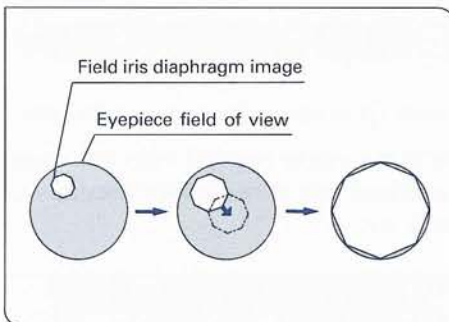

Fig. 43
10. During actual use, open the field diaphragm slightly until its image circumscribes the field of view. (Fig. 43)